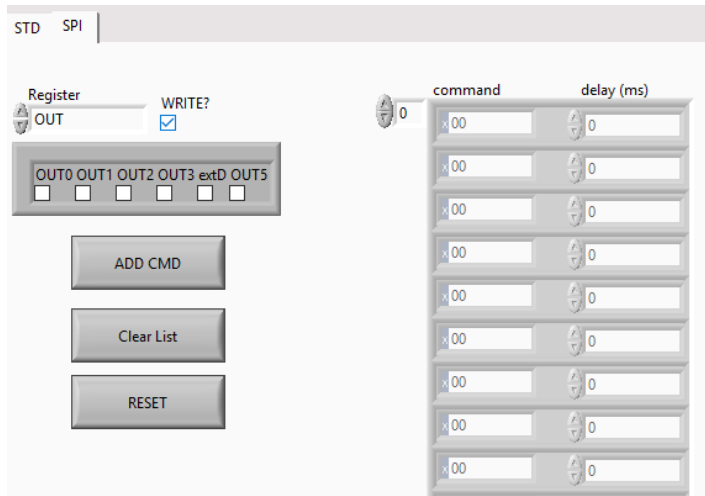

Figure 21 - Write to register OUT
- Tick the WRITE?-Box and select no Output (See Figure 21)